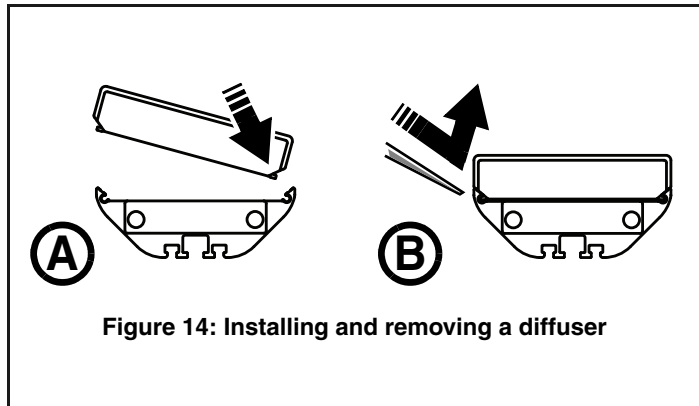

Figure 14: Installing and removing a diffuser
2. See Figure 14. Push one side of the diffuser / lens into the front of the fixture, then push the other side down also (see **A**) so that both sides clip into place.
2. Grasp the diffuser with pipe grips and the jaws available from Martin®, or press the lever ends of two Magnetic Swiper Test Tools (see **B** in Figure 14) between one side of the diffuser / lens and the fixture. Lift the diffuser out of its clip and away from the fixture.